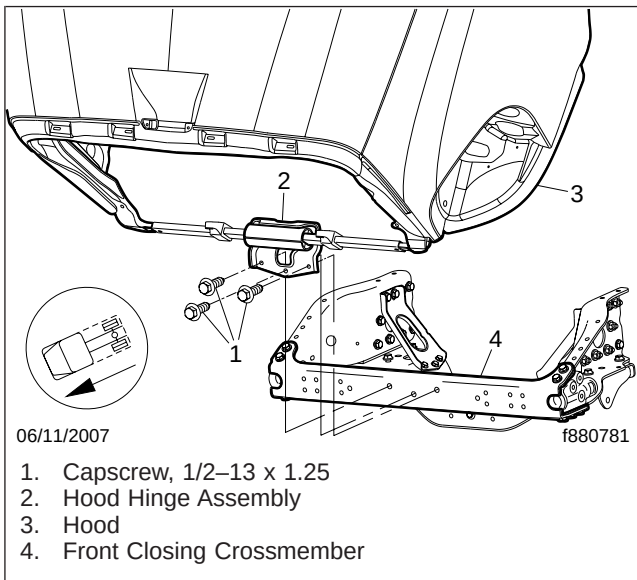

Fig. 3, Hood Pivot Installation
9. Remove the three capscrews that attach the hood hinge assembly to the front crossmember; see Fig. 3.
2. Attach the hood hinge assembly to the front crossmember with the three capscrews; see Fig. 3.